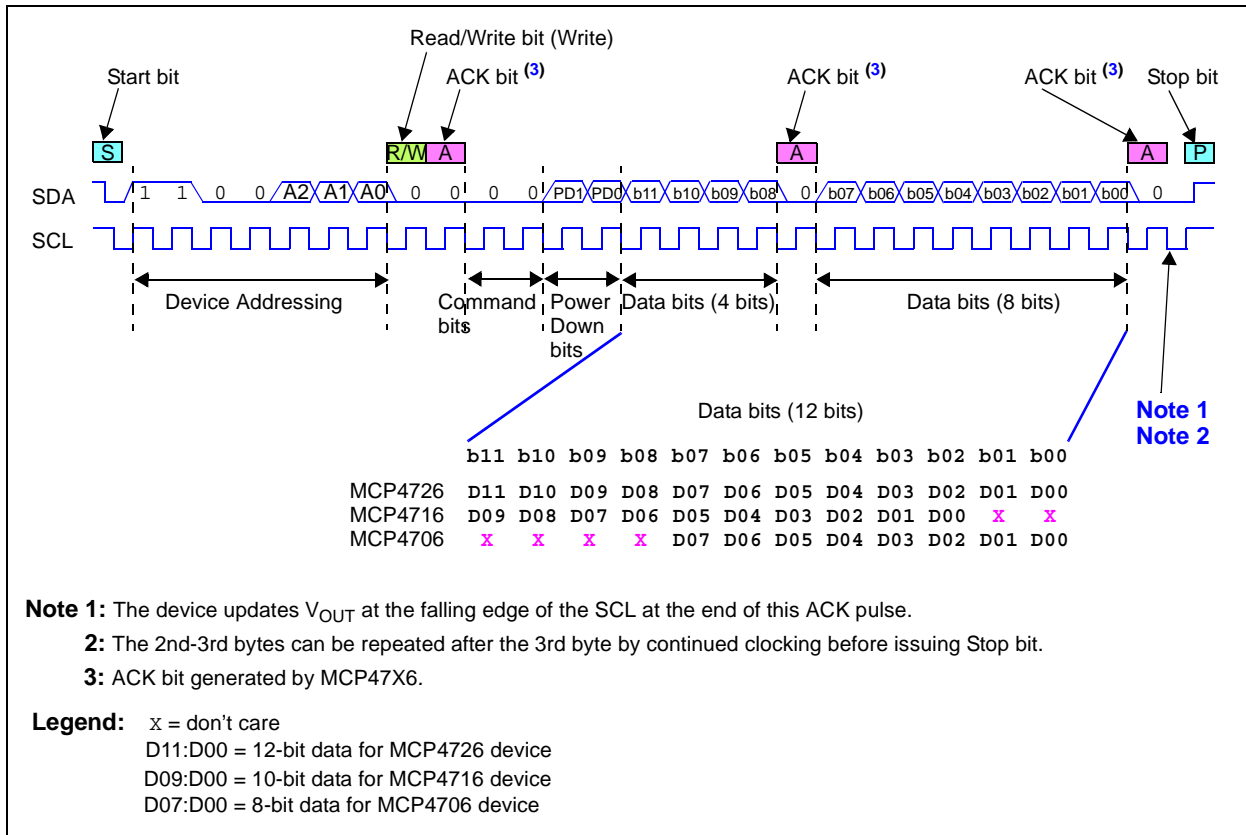

FIGURE 6-1: Write Volatile DAC Register Command.
- Note 1:** These bits are the MSb of the 2nd byte in the I2C Write command. See Figure 6-1 to Figure 6-4.
Figure 6-1 shows an example of the command format, where a Stop bit completes the command.